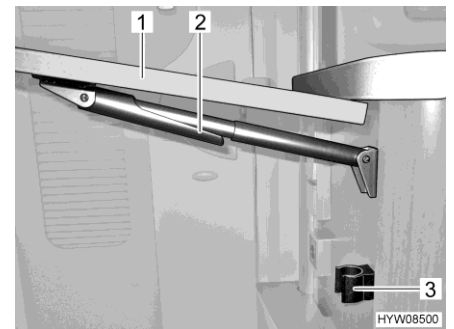

Fig. 66 Folding away the folding worktop
- Hold the folding worktop (Fig. 66,1) at the edges and lift gently. With your other hand, swing down the fixture (Fig. 66,2) on the telescopic holder.
- Fold down the table top until the telescopic holder clicks into position in the holder (Fig. 66,3).